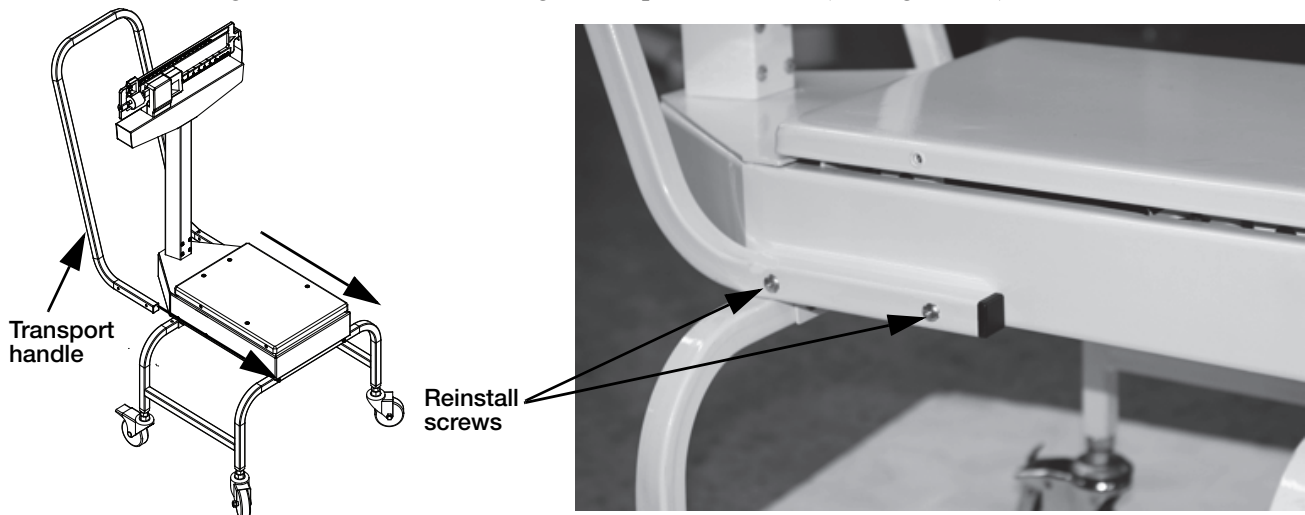

Figure 2-9. Secure the Transport Handle to the Scale Support Frame
2. Align the transport handle to both sides of the scale support frame (see Figure 2-9).
3. Insert and tighten the four screws using a Phillips screwdriver (see Figure 2-9).